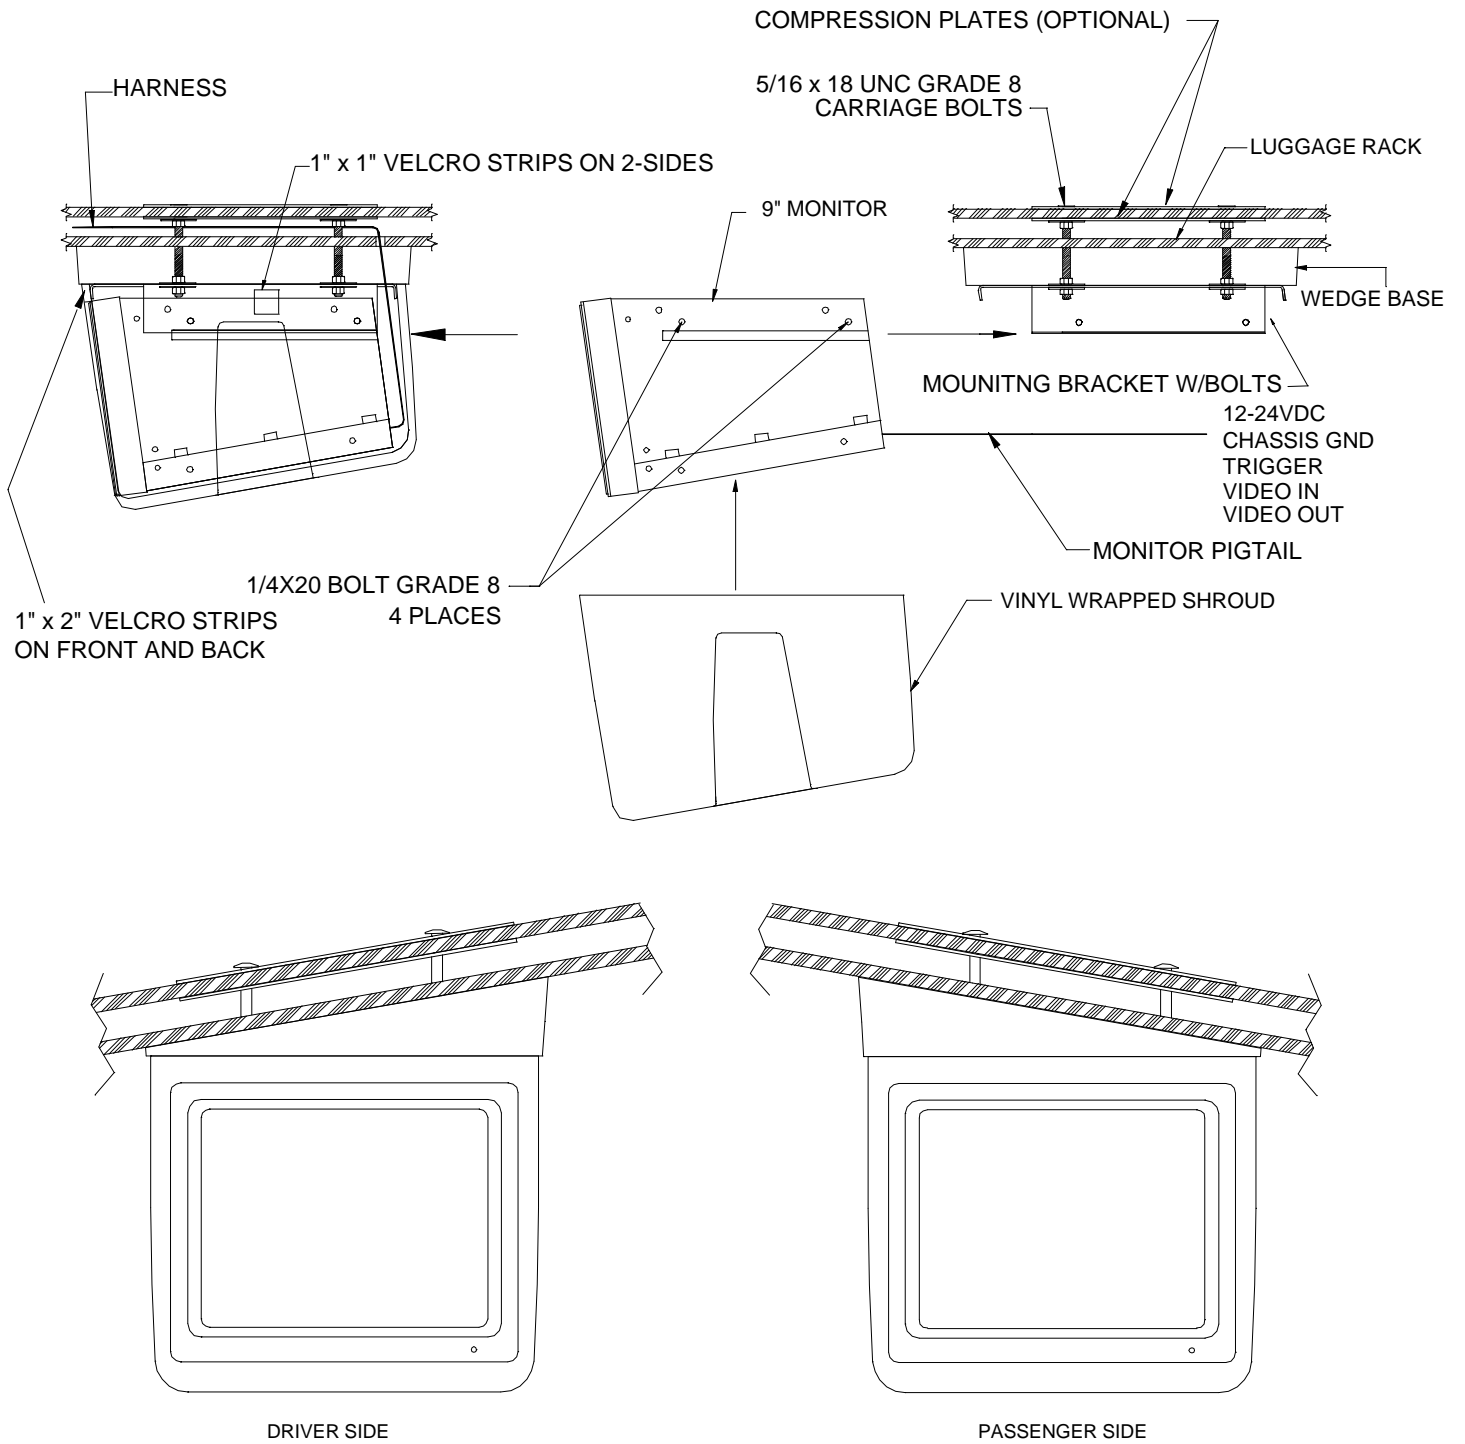

Figure 9
- c) Depending on the construction of the luggage rack, two mounting plates may be required to support monitor assembly. (Fig. 9 & 10)